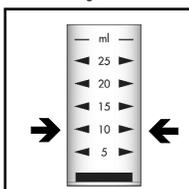

Figure 2
3. Pour 10 mL of the treated sample into the empty **25 mL sample cup** (fig 2), being careful not to transfer any cadmium particles to the sample cup.